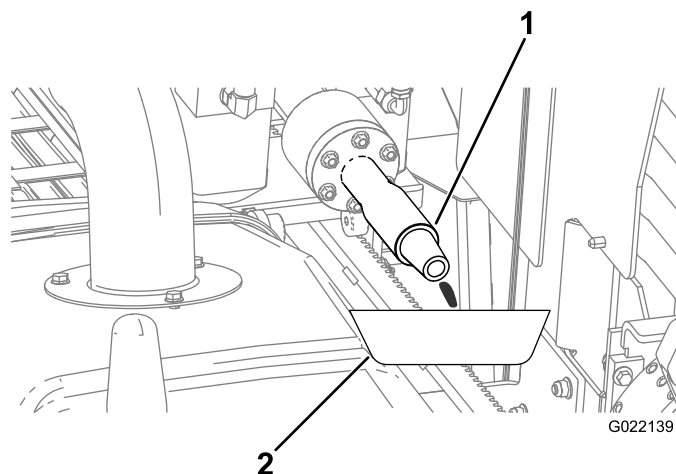

Figure 113
- B. Place a drain pan under the drill spindle for the leaked antifreeze (Figure 113).
D. When the antifreeze comes out of the drill spindle (Figure 113), turn the pump off.